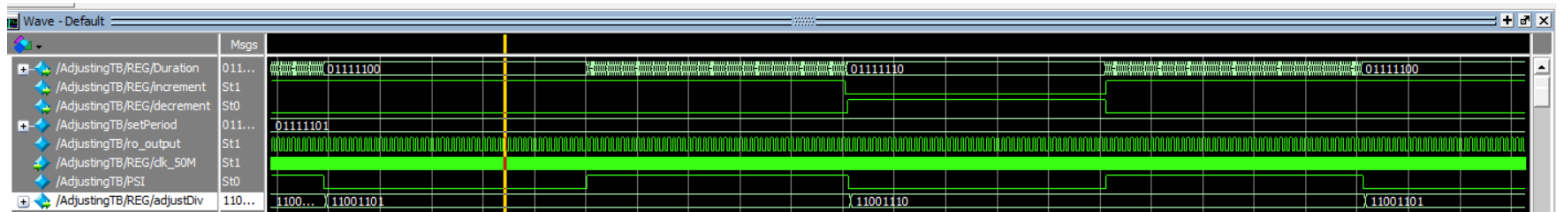

Fig. 1 Scenario 1
A. Look at tables and figs 1 and 2